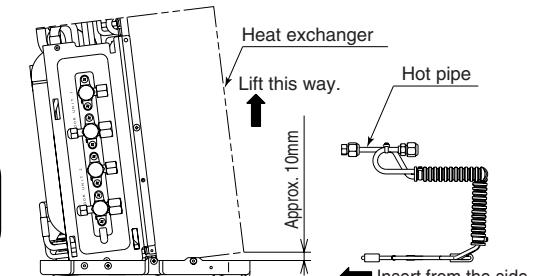
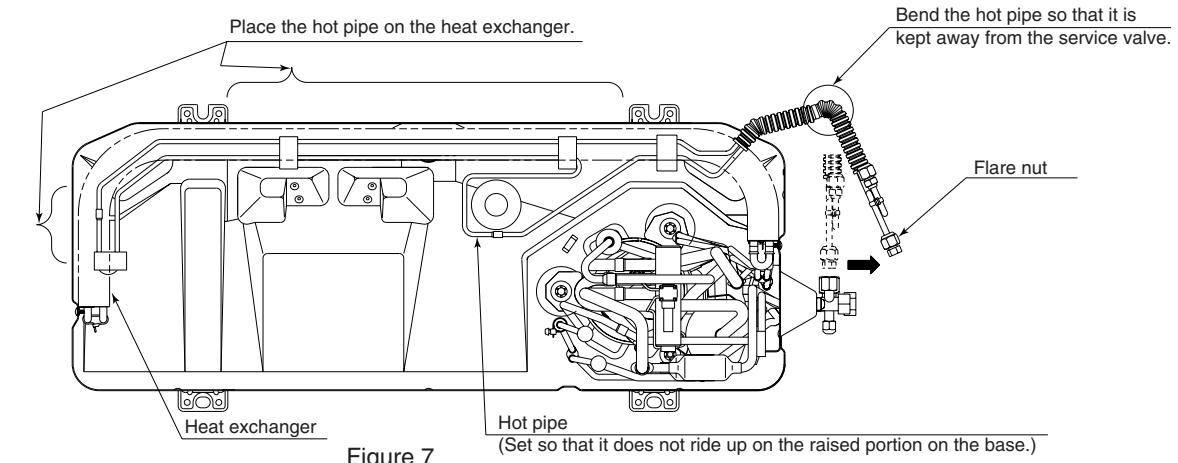

Figure 6
Figure 7
- Lift up the heat exchanger as shown in figure 6, and create a gap of approximately 10 mm between the base and the lower surface of the heat exchanger. Then insert the hot pipe into the top of the base from the gap, and secure as shown in figure 7.
- Return the heat exchanger and valve plate to the original position, and refasten the screws (3 pcs.) you had removed earlier to the base. Then, bend the hot pipe (Flare nut side) as shown in figure 7.